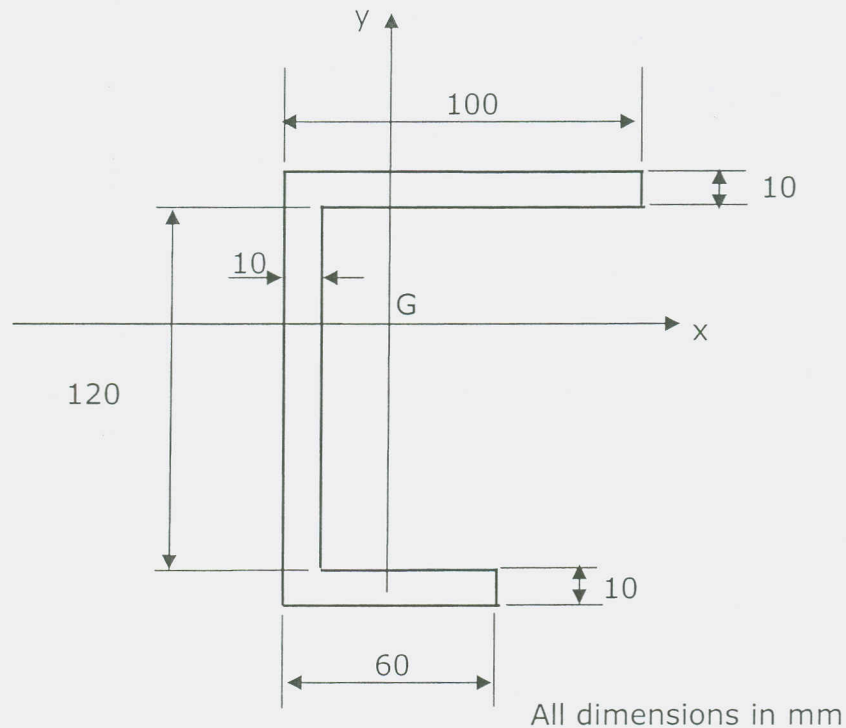

Fig Q1
1. For the cross-section shown in Fig. Q1 determine,